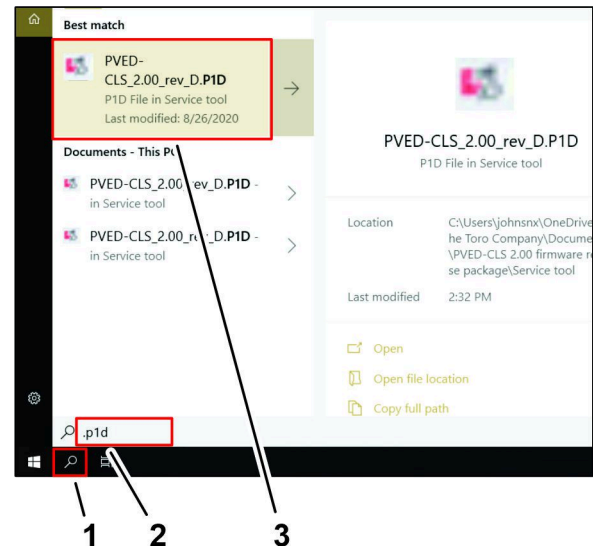

Figure 37
2. In Windows task bar, click the SEARCH icon (Figure 37).
4. Click PVED-CLS_2.00_rev_D.P1D icon (Figure 37).